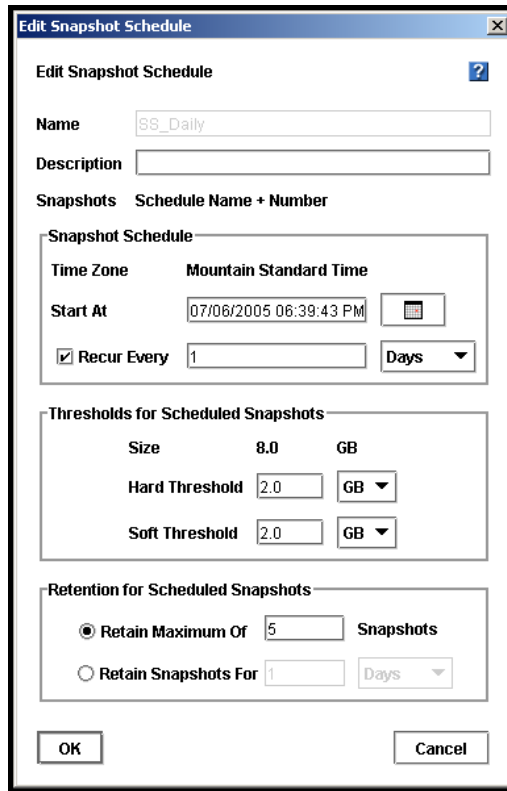

Figure 181. Editing a Snapshot Schedule
4. From the Tasks menu, select Edit Schedule. The Edit Snapshot Schedule window opens, shown in Figure 181.